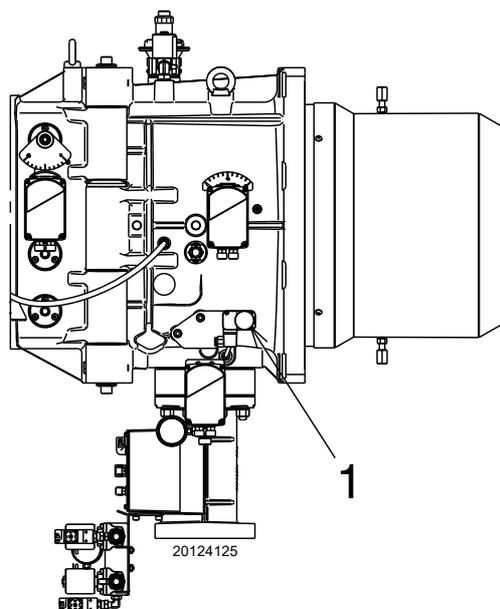

Fig. 28
Gas pressure measured at test point 1)(Fig. 28, page 26), with:
Pressure loss at gas butterfly valve 2)(Fig. 28, page 26) with maximum opening: 90°.
- subtract the pressure in combustion chamber from the gas pressure measured at test point 1)(Fig. 28, page 26).
Gas pressure at test point 1)(Fig. 28) = 46 mbar
To calculate the required gas pressure at test point 1)(Fig. 28), set the maximum modulating output required from the burner operation:
- read, on the right (column 1), the pressure at the test point 1)(Fig. 28).
pressure required at test point 1)(Fig. 28).